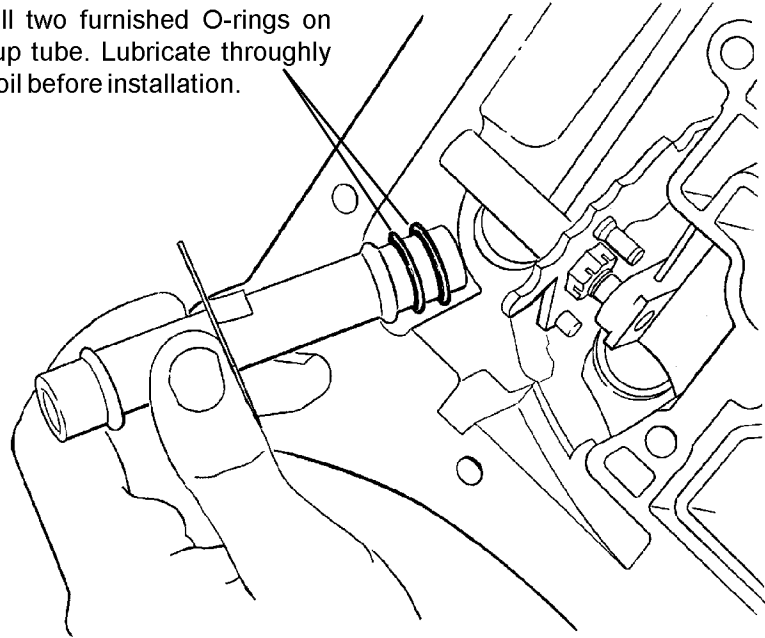

Figure 16
**STEP 16.** Install two (2) filter O-rings on filter pick-up tube (**See Fig. 16**). Lubricate O-rings with clean ATF then push pick-up tube and filter assembly up into transmission. On 1968 and later models install filter spacer (if present) and shoulder bolt then torque to 8 - 10 lb.ft (11 - 13.6 Nm).